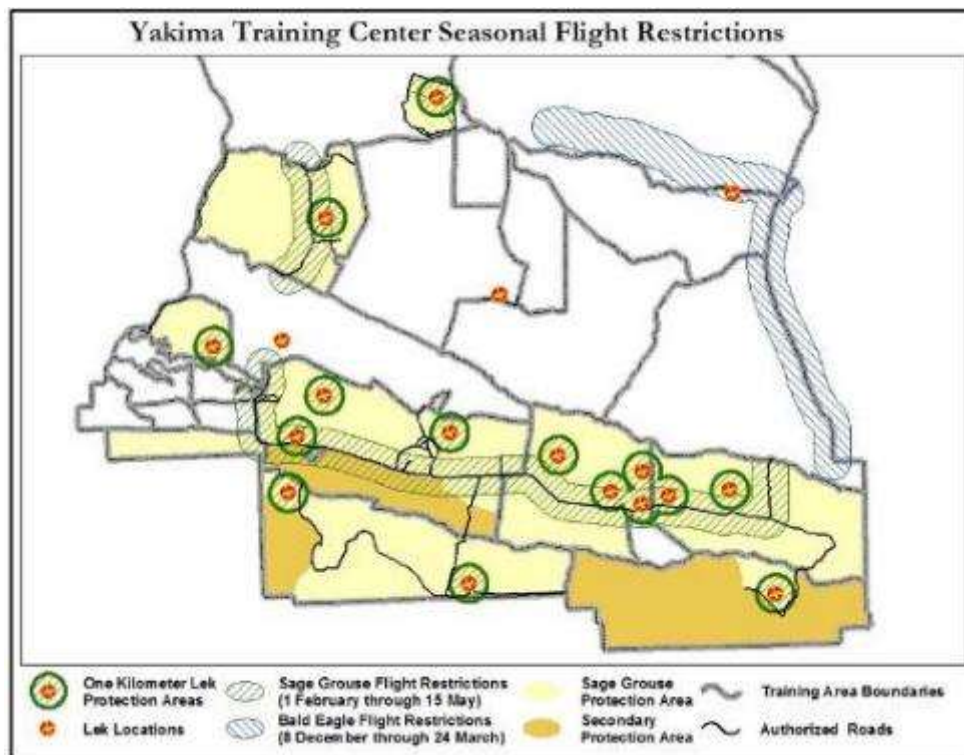

Figure 4-4. Bald Eagle Protected Flight Areas (Seasonal Flight Restrictions)
2. Aircraft are not permitted to fly below 300 feet AGL on the flight routes over the designated Protected Areas between 2400 and 0900 (Figure 4-4). Refer to JBLM Regulation 95-1 for Flight Route Information.